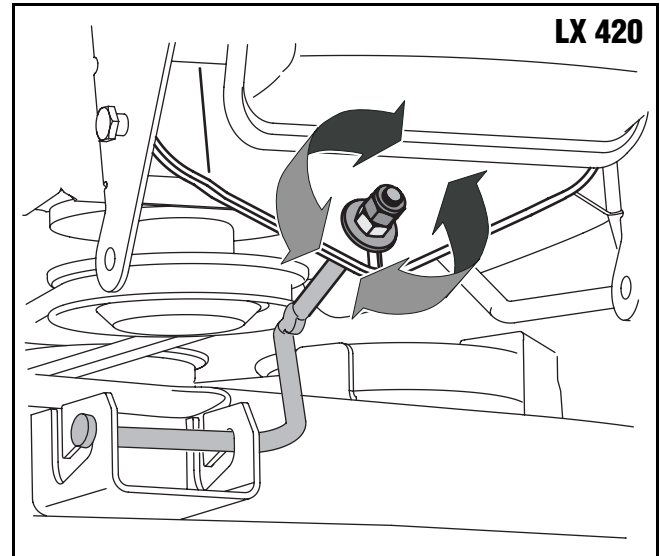

Figure 10
- From the front of the tractor, loosen the outermost hex lock nut on the end of the deck hanger rod. See Figure 10 or Figure 11.
- Tighten the inner hex nut front against the front hanger bracket to raise the front of the deck; loosen the hex nut to lower the front of the deck. See Figure 10 or Figure 11.